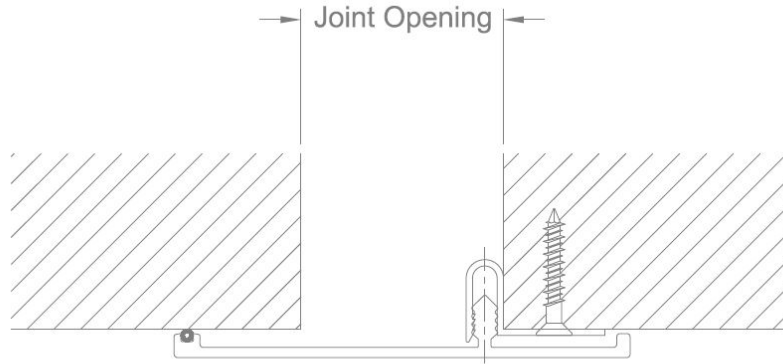

FIGURE 4
4. Once installation of joint covers is complete, use proper cleaning solutions (by installer) to clean joint covers. Final installation should appear as shown in **Figure 4**.